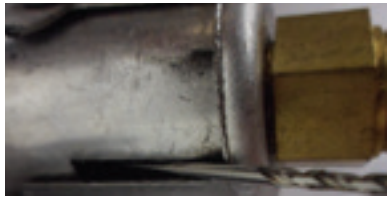

Figure 3
1. Ensure the air shutter is set to the specification. See **Figure 3** and **Tables 1 and 2** on page 8.